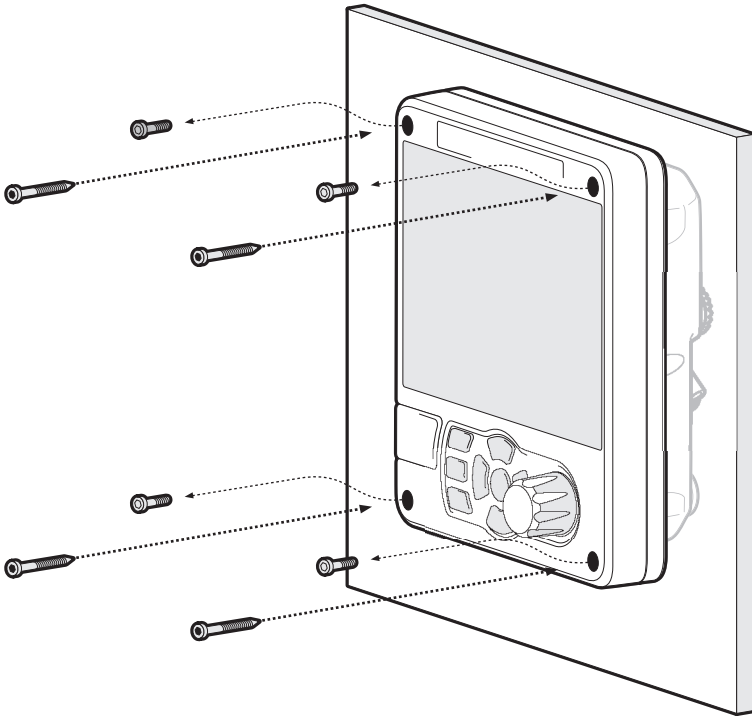

Figure 6 Panel mounting the AIS transceiver
- The AIS transceiver can be panel mounted using the four self-tapping screws provided. Please refer to Figure 6. for guidance. Access behind the panel is required when using this mounting option.
To panel mount the unit it is necessary to remove the 4 off socket cap screws recessed in front of the unit. See Figure 6.